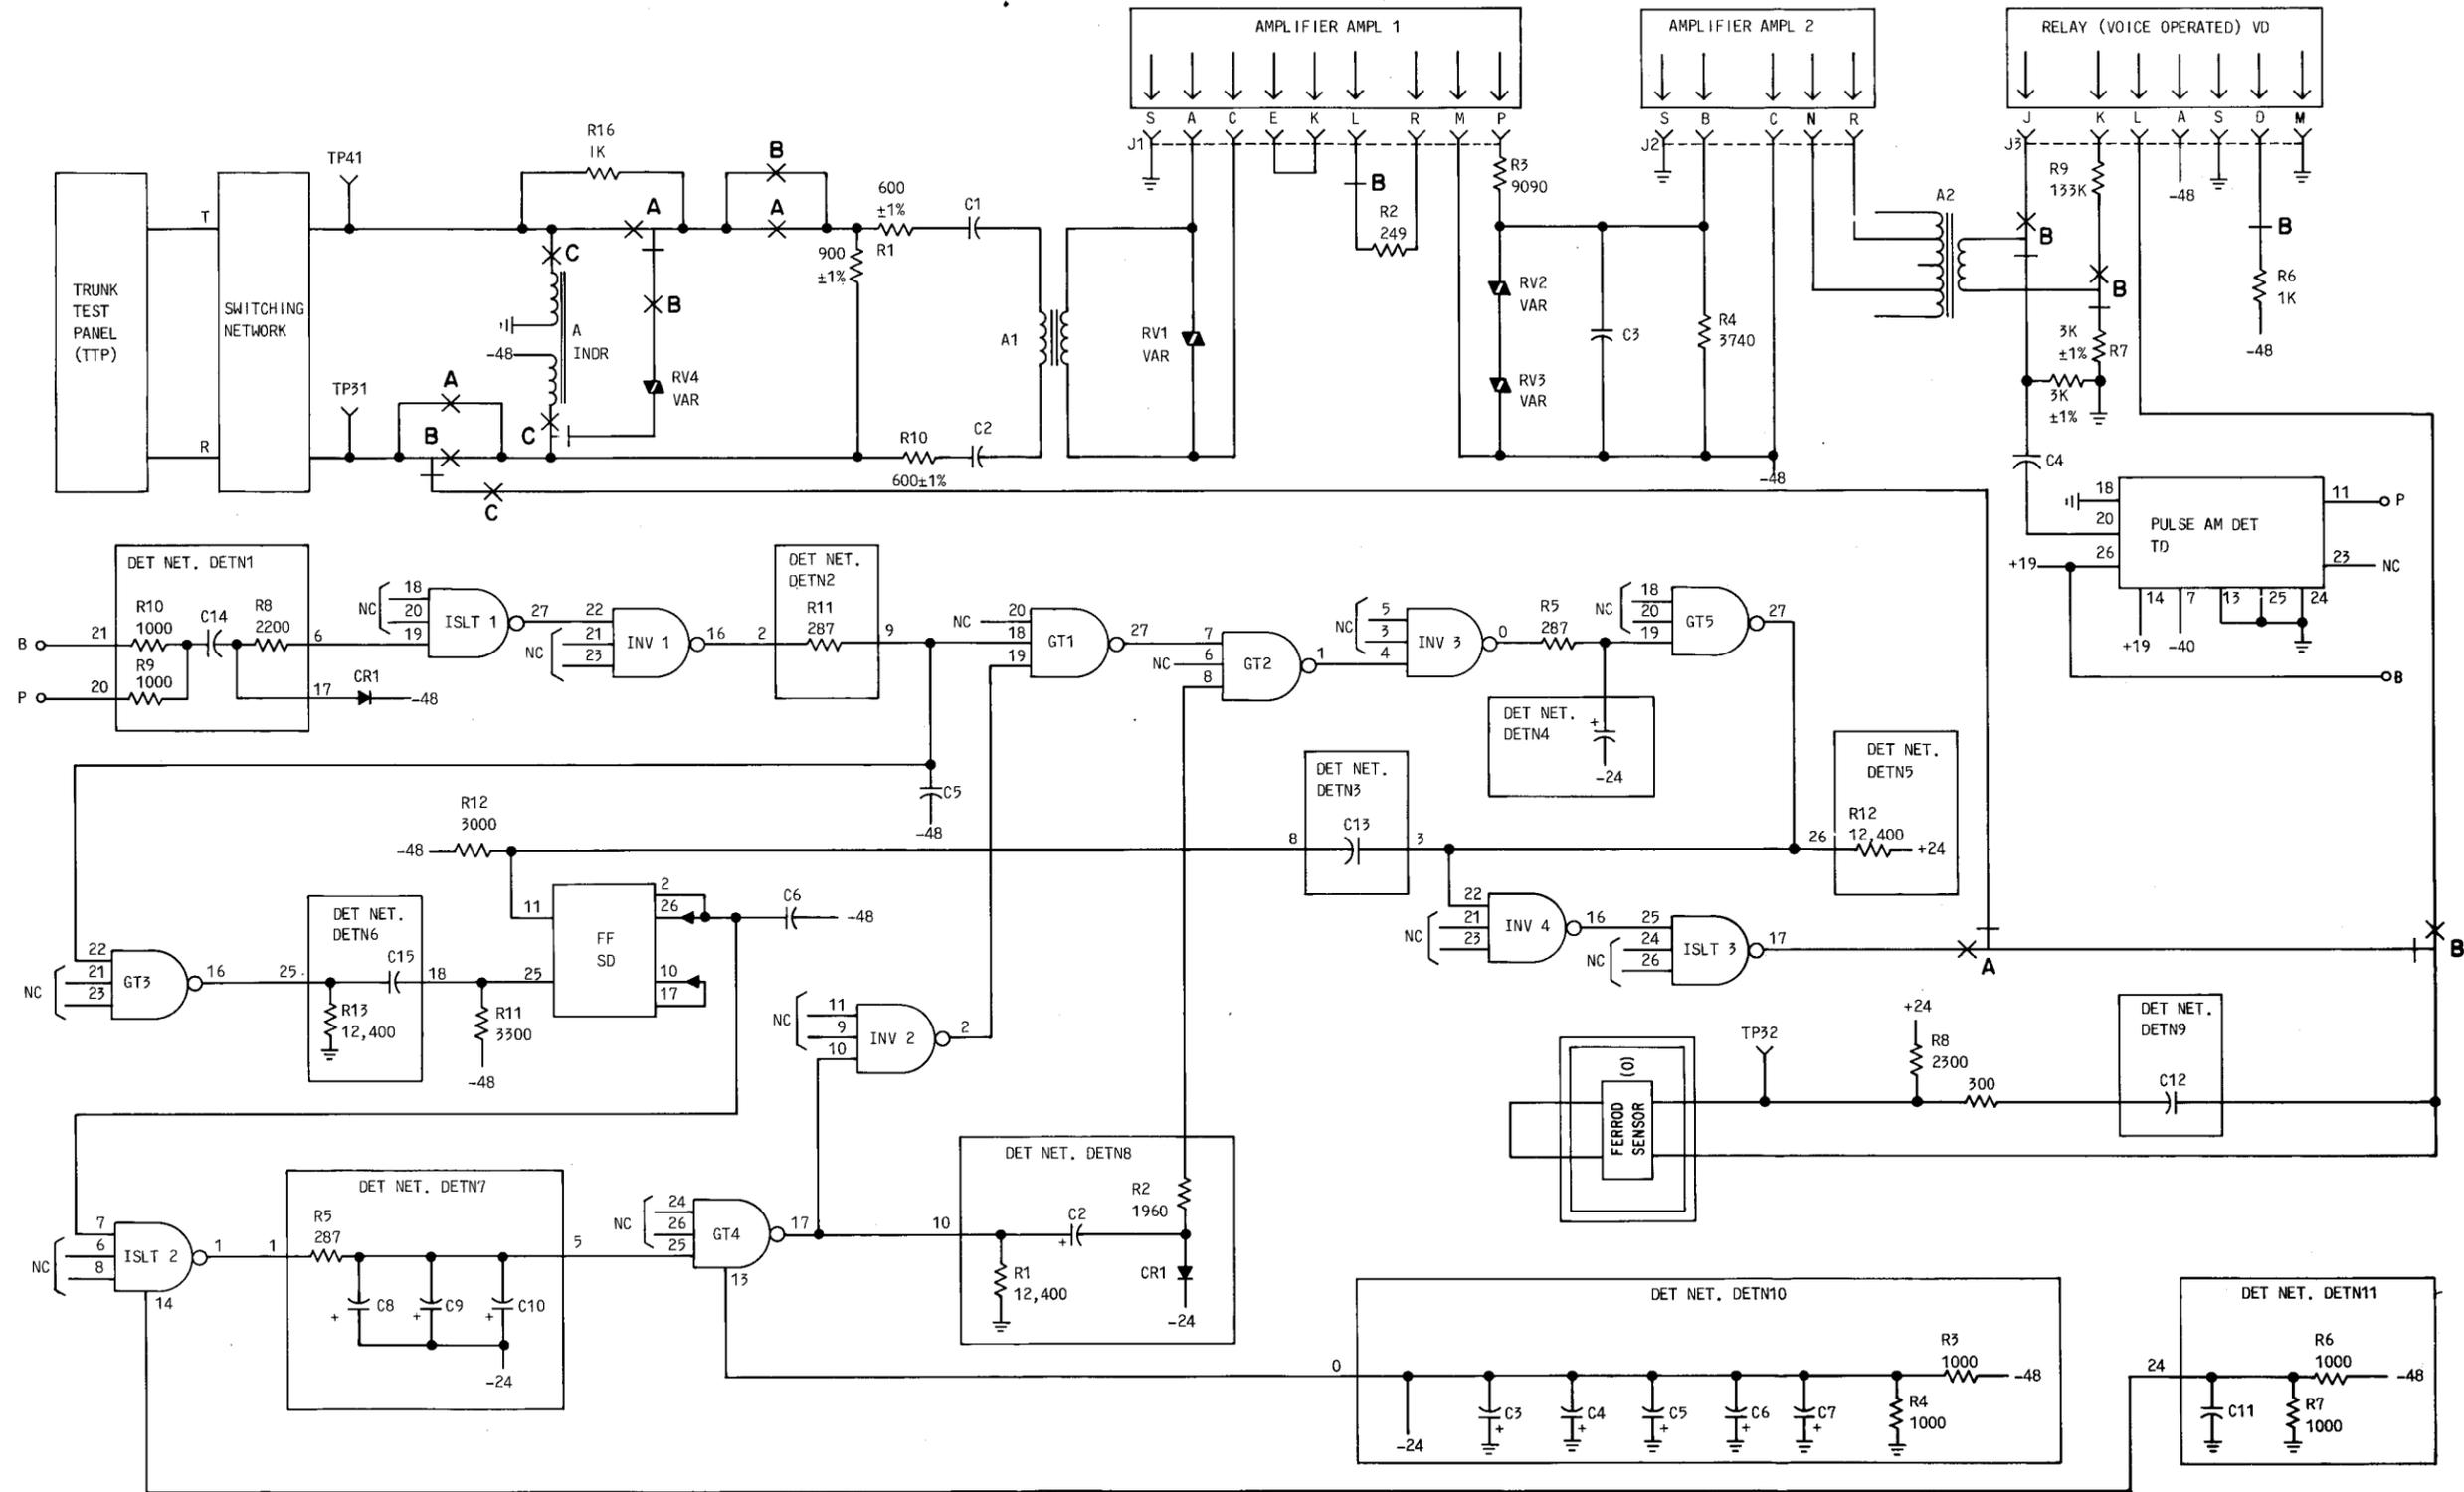

Fig. 1—Tone Presence Detector Circuit
3.03 The following is a step-by-step procedure to make the tone presence detector circuit traffic busy and connect it to TTY (Fig. 1).